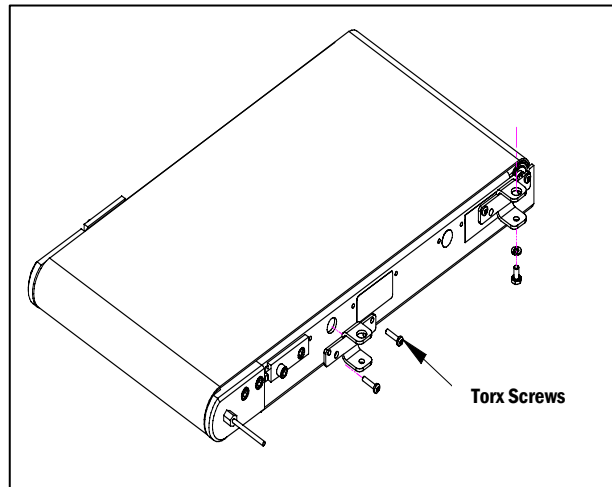

Figure 1
a. Attach the Guide Brackets to the conveyor frame using the 10-32 x 7/8" Thread Forming Torx Head Screws provided (**Figure 1**). The large hole of the guide bracket should face upward.